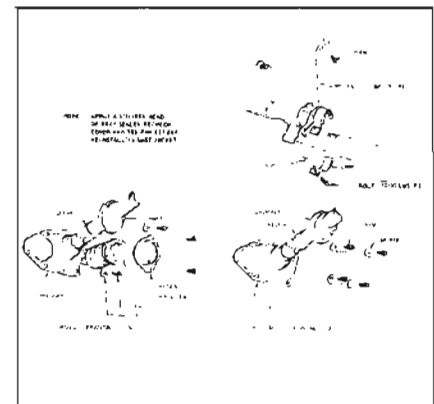

Figure 8-68—Mast Jacket Installation
4. Remove screws that retain toe pan cover to toe pan. See Figure 8-68.